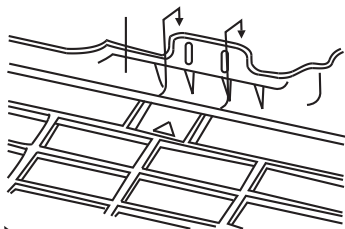

Fig. 17 – Hanging Indoor Unit
4. Hang indoor unit on upper hooks of wall mounting plate (as shown in Fig. 17)